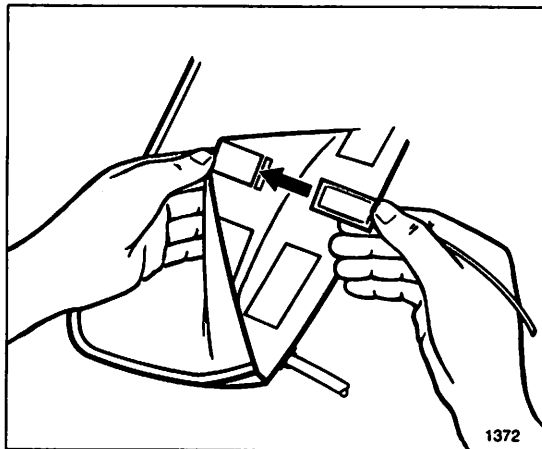

Figure 2-3. Microphone Placement
The Velcro at microphone bag should be attached to the Velcro at pocket, to secure the microphone to the cuff and ensure proper placement of the microphone in the pocket. (See figure 2-3.)
- e. Place excess microphone cord loosely inside the pocket formed between the cover and the cuff body. (See figure 2-3.)